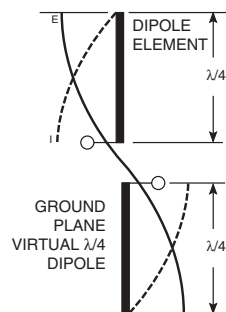

Figure 25: Dipole Antenna
4. In many antenna designs, particularly $\frac{1}{4}$ -wave whips, the ground plane acts as a counterpoise, forming, in essence, a $\frac{1}{2}$ -wave dipole (Figure 25). For this reason, adequate ground plane area is essential. The ground plane can be a metal case or ground-fill areas on a circuit board. Ideally, it should have a surface area less than or equal to the overall length of the $\frac{1}{4}$ -wave radiating element. This is often not practical due to size and configuration constraints. In these instances, a designer must make the best use of the area available to create as much ground